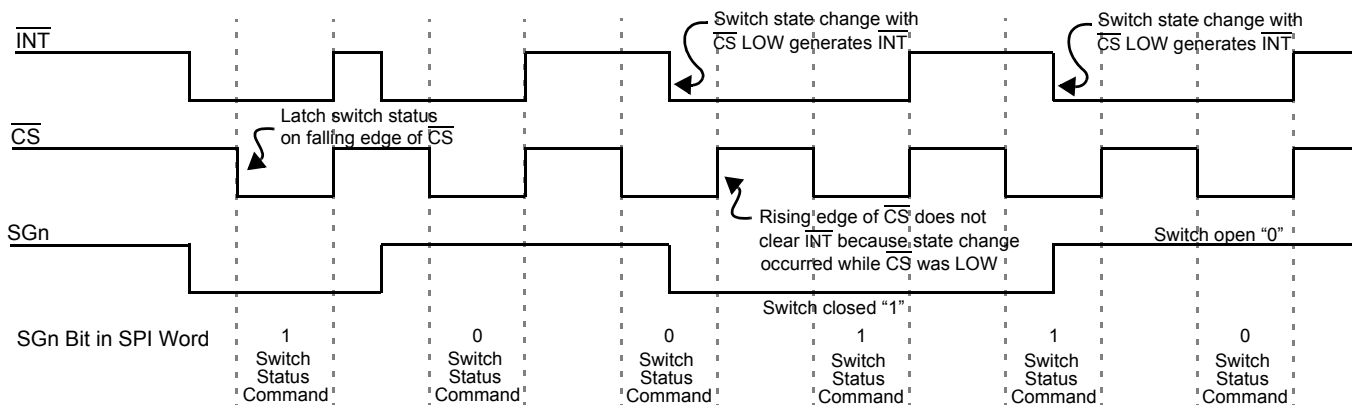

Figure 6. Normal Mode Interrupt Operation
2. \overline{INT} terminal is reset to logic [1], except when additional switch changes occur during \overline{CS} LOW. (See Figure 6 on page 9.)
Figure 6, page 9, is a graphical description of the device operation in Normal mode. Switch states are latched into the